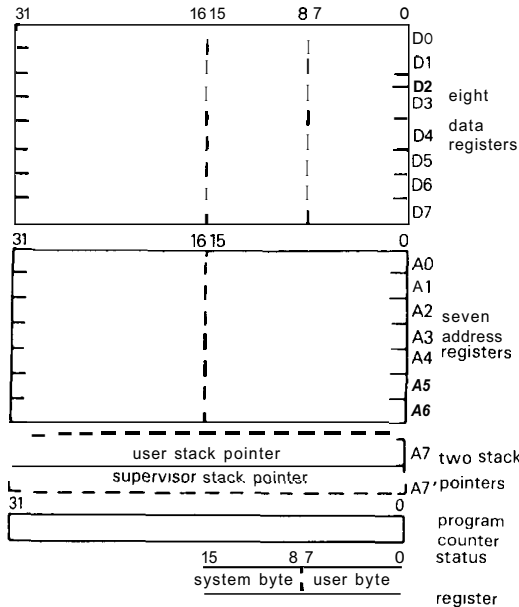

Figure 11.1. 68000/8 registers.
Figure 11.1 shows the internal registers of the 68000 (we will use "68000" to refer to features that are common to the 68000 and 68008). There are 8 *data registers* and 7 *address registers*, all of which are completely general-purpose; this contrasts with the 8086/88, in which AX (AL) must be used for I/O, DX for port addressing, etc. The *data registers* can hold bytes (8 bits), "words" (16 bits), or "longs" (32 bits), with the data type in any given operation specified in the assembly-language instruction itself (see below). You do your computation and byte-pushing in the data registers.